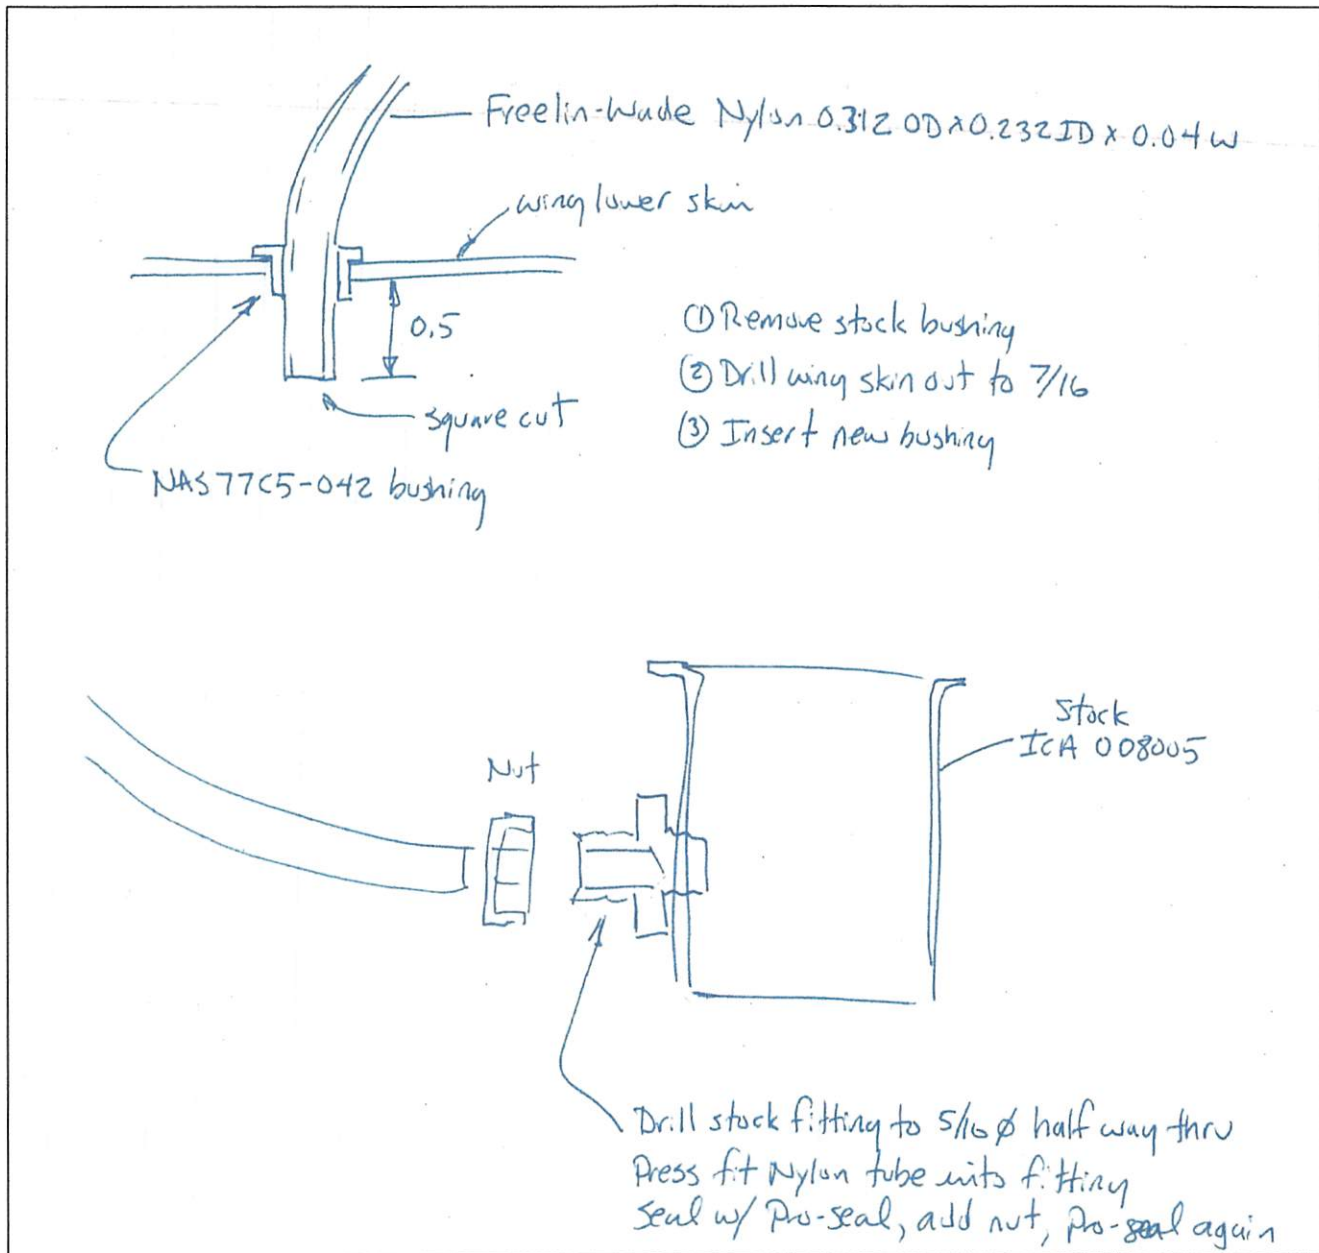
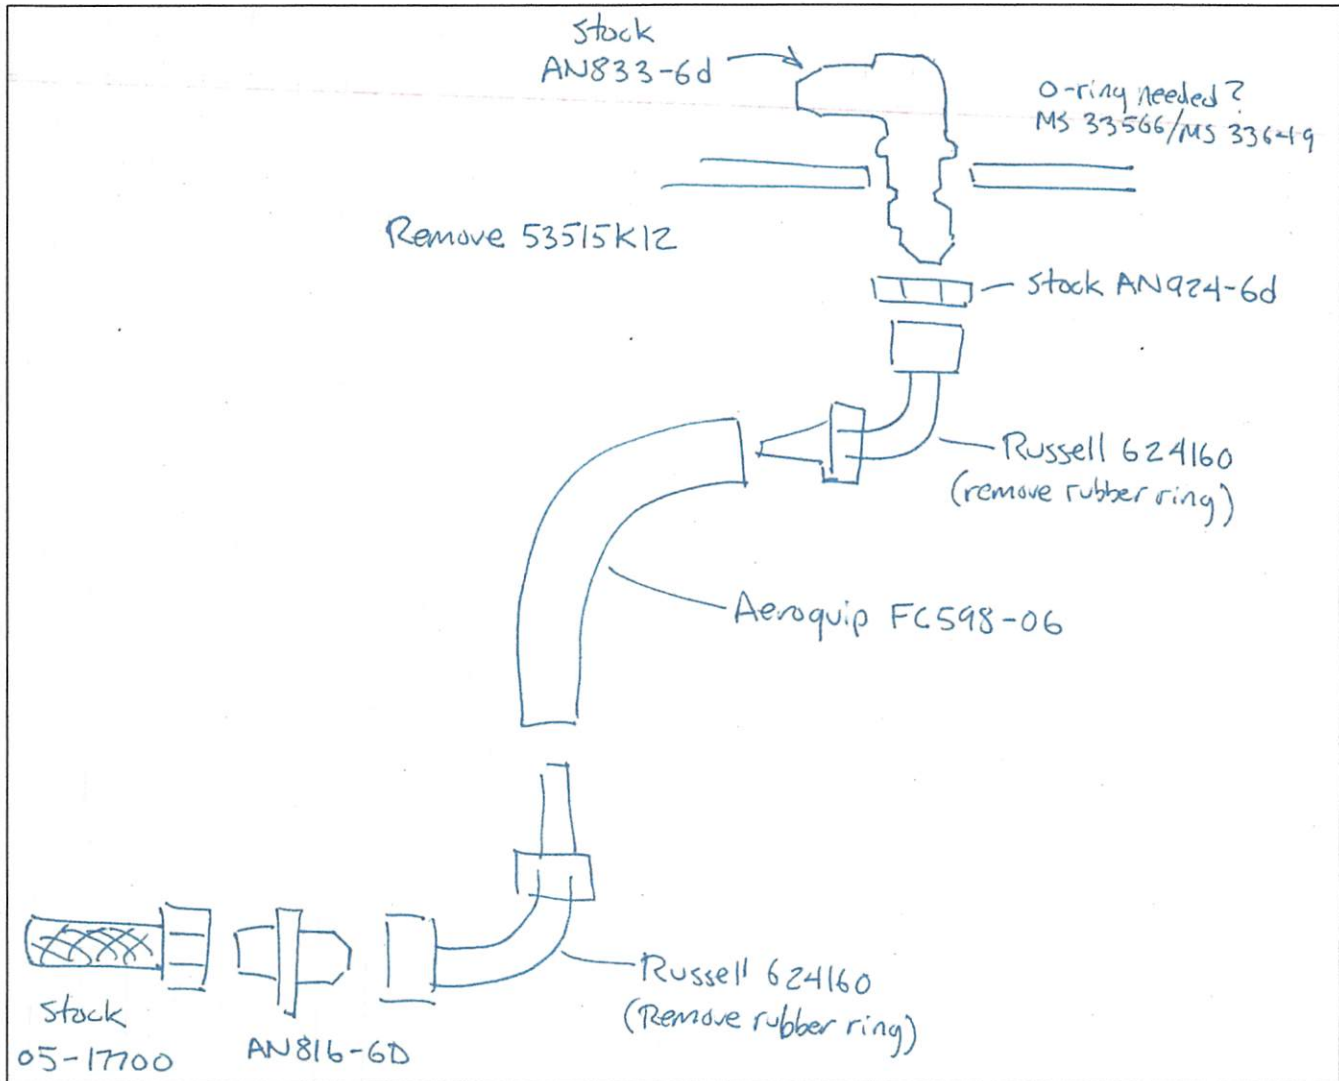

Figure 1
Figure 2
4. Reference Figure 1 and Figure 2, use a 5/16" drill to open up the stock compression fitting and nut to accept new tubing. Use CB200 to bond assembly together and to seal tube to nut.